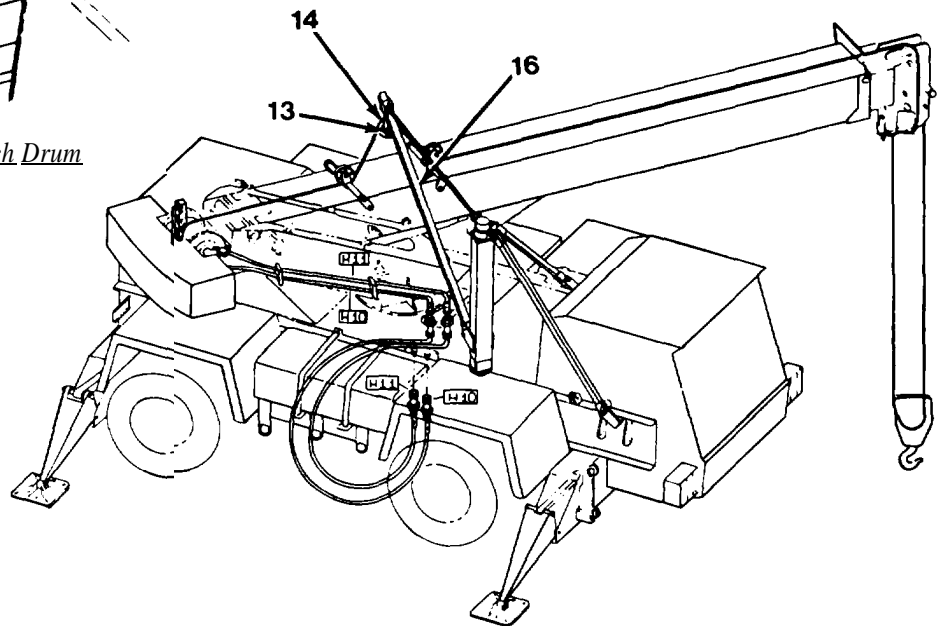

Figure 5-39 *Lifting the Upperstructure*
- c. Remove sheave (14) and cable from lift arm (16) by removing pin (13) from the clevis that retains sheave (14, Figure 5-39). Temporarily lay pin (13) and sheave (14) aside.